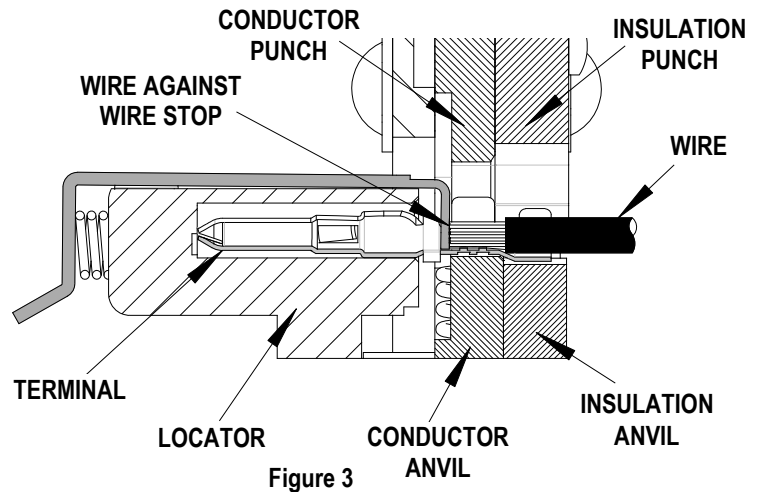

Figure 3
- Push the wire until it stops. See Figure 3.